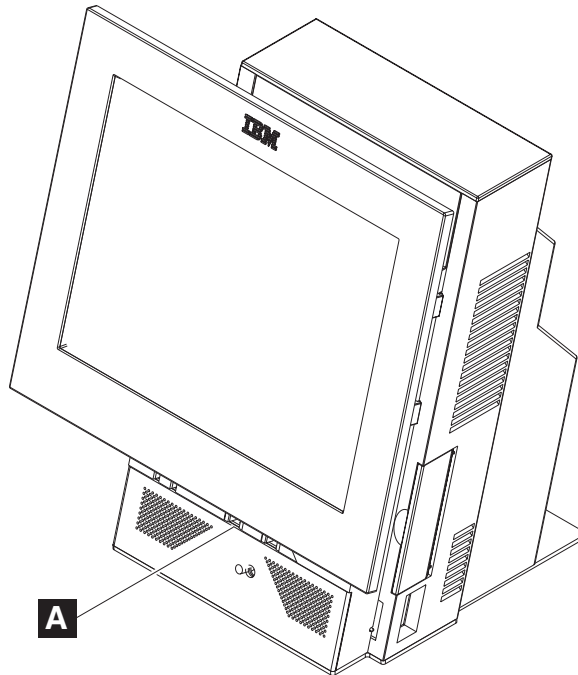

Figure 33. Location of presence sensor
A presence sensor **A** Figure 33 causes the system to resume from standby, based upon the operator's proximity. The sensor can be calibrated to change the maximum detection range from approximately 600 mm (24 in.) to 1500 mm (60 in.), depending on the reflectivity of the object being sensed. The sensor detects objects as close as 300 mm (12 in.).
1. Hold an object (preferably a white object for best reflectivity) at the distance from the sensor at which you want the sensor to detect presence. See Figure 33 to locate the presence sensor.